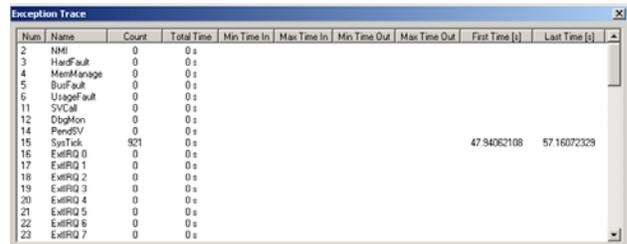

Figure 8: Exception Trace Window
SWV will capture various exceptions' return and exit. These are timestamped and the exception number is displayed. Figure 8 shows the Exception Trace window where the exception SysTick (15) has occurred 921 times. Information about exceptions will be displayed in this window and also repeated in the Trace Records window as shown in Figure 5 where exceptions 0 and 15 are displayed.